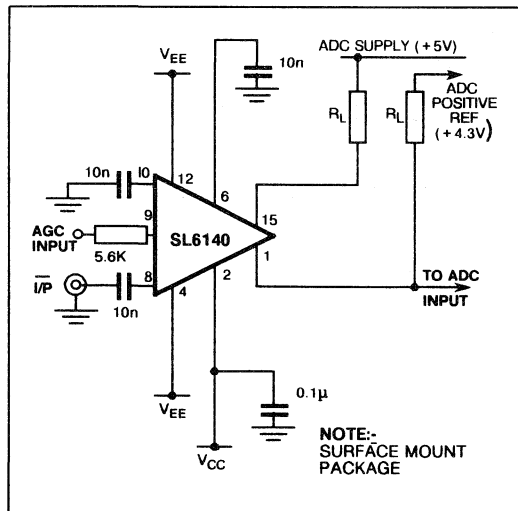

Fig 5
**SP973T8 OUTPUT DATA** (see SP973T8 datasheet Fig. 5 for typical test load)